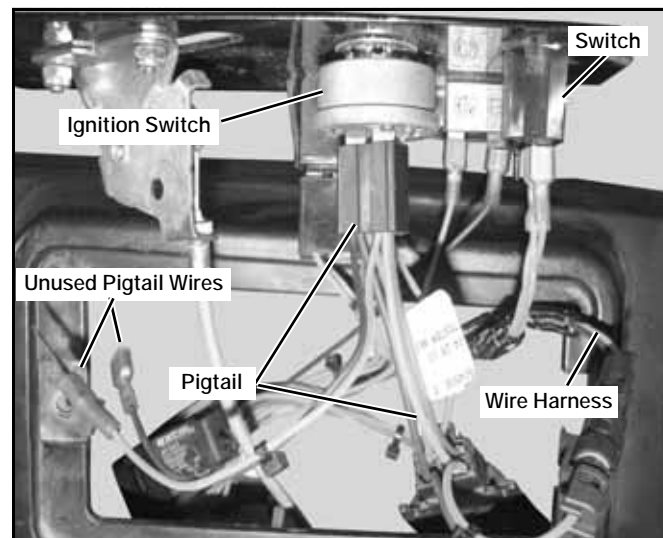

FIG. 4
7. Connect the new key switch pigtail to the ignition switch and to the mower's wire harness. (FIG. 4)
8. Connect the weather pack connector on the new wire harness to the weather pack connector on the new key switch pigtail. Connect the female blade terminals on the new wire harness to the switch (polarity is not critical). (FIG. 4)